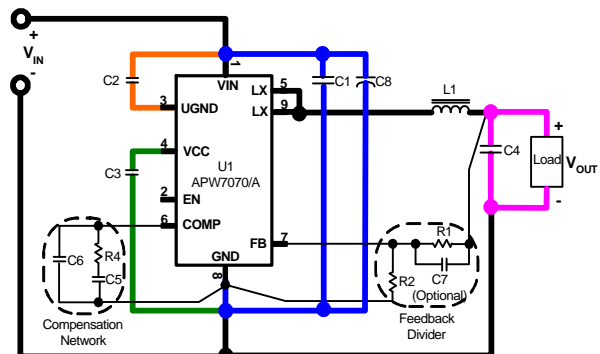

Figure 2. Current Path Diagram
In high power switching regulator, a correct layout is important to ensure proper operation of the regulator. In general, interconnecting impedance should be minimized by using short, wide printed circuit traces. Signal and power grounds are to be kept separating and finally combined using ground plane construction or single point grounding. Figure 2 illustrates the layout, with bold lines indicating high current paths. Components along the bold lines should be placed close together. Below is a checklist for your layout:
2. In Figure 2, the loops with same color bold lines conduct high slew rate current. These interconnecting impedances should be minimized by using wide, short printed circuit traces.